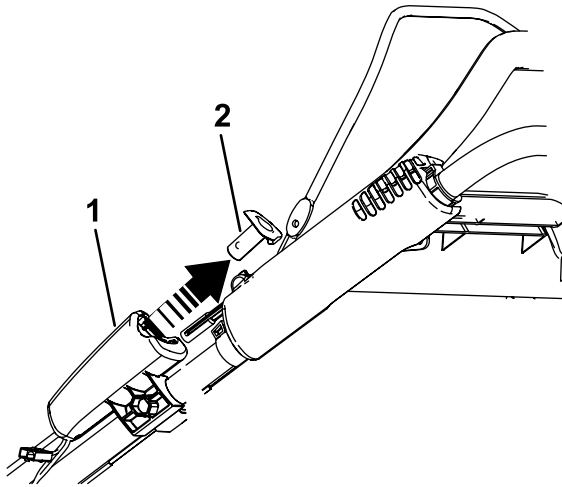

Figure 23
1. Remove the electric-start button as shown in Figure 23 (electric-start model only).